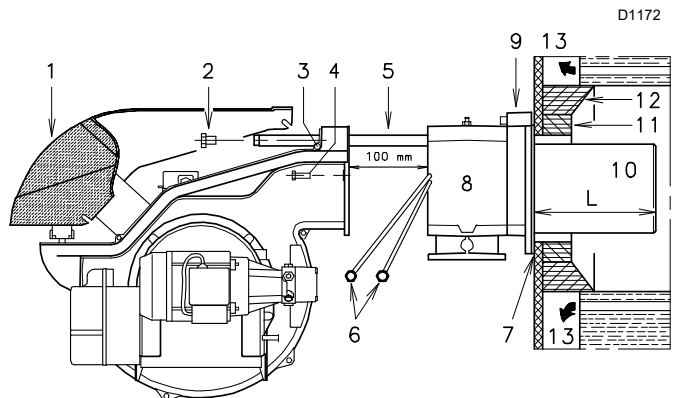
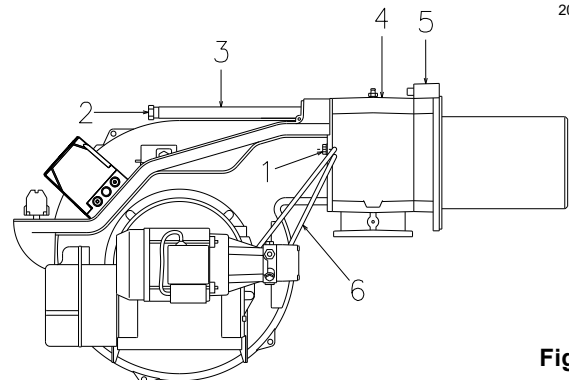

Fig. 11
Fig. 17
For boilers with a water-cooled front piece, a refractory lining 11)-12)(Fig. 11) is not necessary, unless expressly requested by the boiler manufacturer.
Separate the combustion head from the rest of the burner (Fig. 11):
Once this operation (if necessary) has been carried out, fix the flange 9)(Fig. 11 on page 16) to the boiler plate, interposing the insulating gasket 7)(Fig. 11 on page 16) supplied. Use the 4 screws, also supplied with the unit, after protecting the thread with anti-seizing product.
- Reassemble the burner on the guides 3)(Fig. 17) at about 100 mm from the pipe coupling 4), burner in the position shown in Fig. 11 on page 16;
- insert the electrode cables and then slide the burner up to the pipe coupling, the burner in the position indicated in Fig. 17;
- refit screws 2)(Fig. 17) on slide bars 3);
- reconnect the light oil pipes by screwing the two fittings 6)(Fig. 11 on page 16).